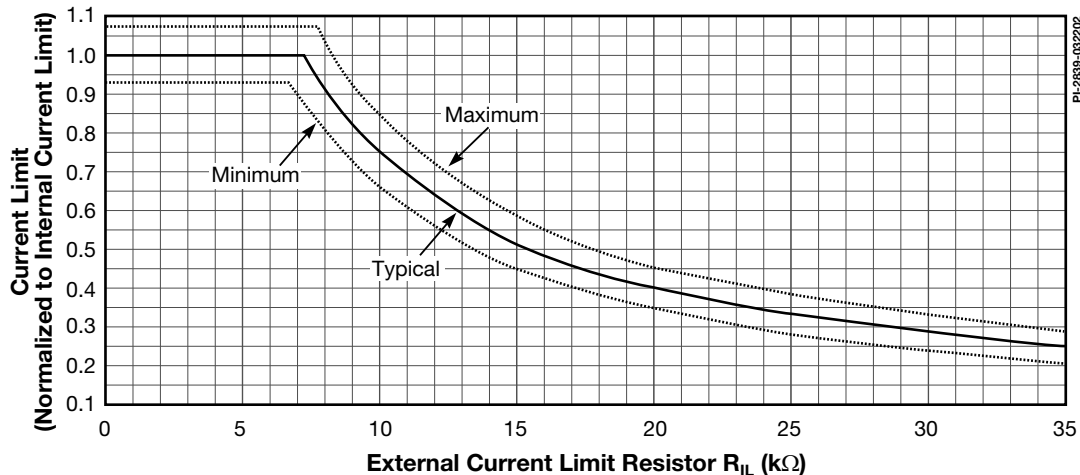

Figure 35. Current Limit vs. External Current Limit Resistance.
- For externally adjusted current limit values, please refer to Figure 35 (Current Limit vs. External Current Limit Resistance) in the Typical Performance Characteristics section.